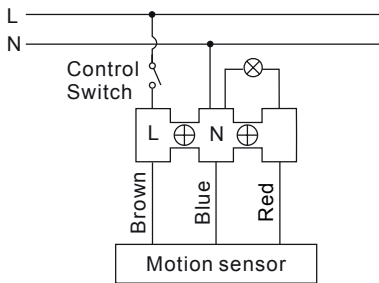
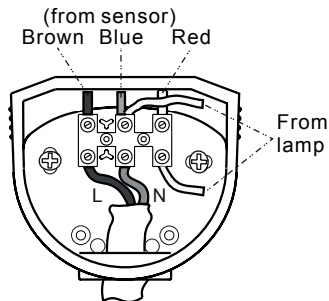
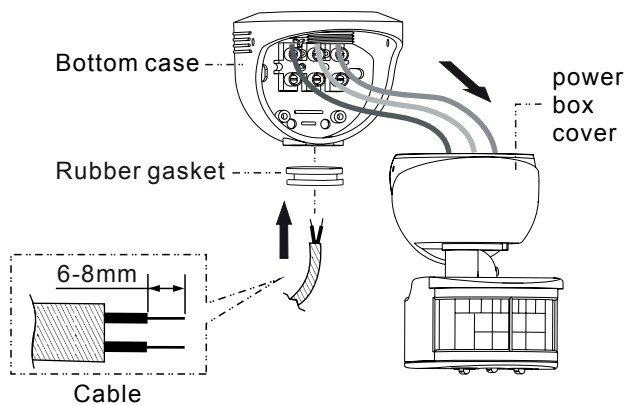
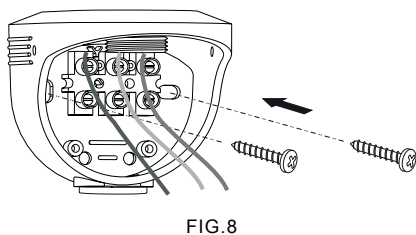

FIG.5
FIG.6
FIG. 7
FIG. 8
1. Detach the sensor part from the bottom case, then fix the bottom case on the wall or on the ceiling with the screws (See FIG.7 & FIG.8).
2. Feed the cables through rubber gasket and refer to wiring diagram to connect the cables, please be noted to strip off 6 - 8mm of cable sheathing by tool (See FIG.5 & FIG.6 & FIG.7).